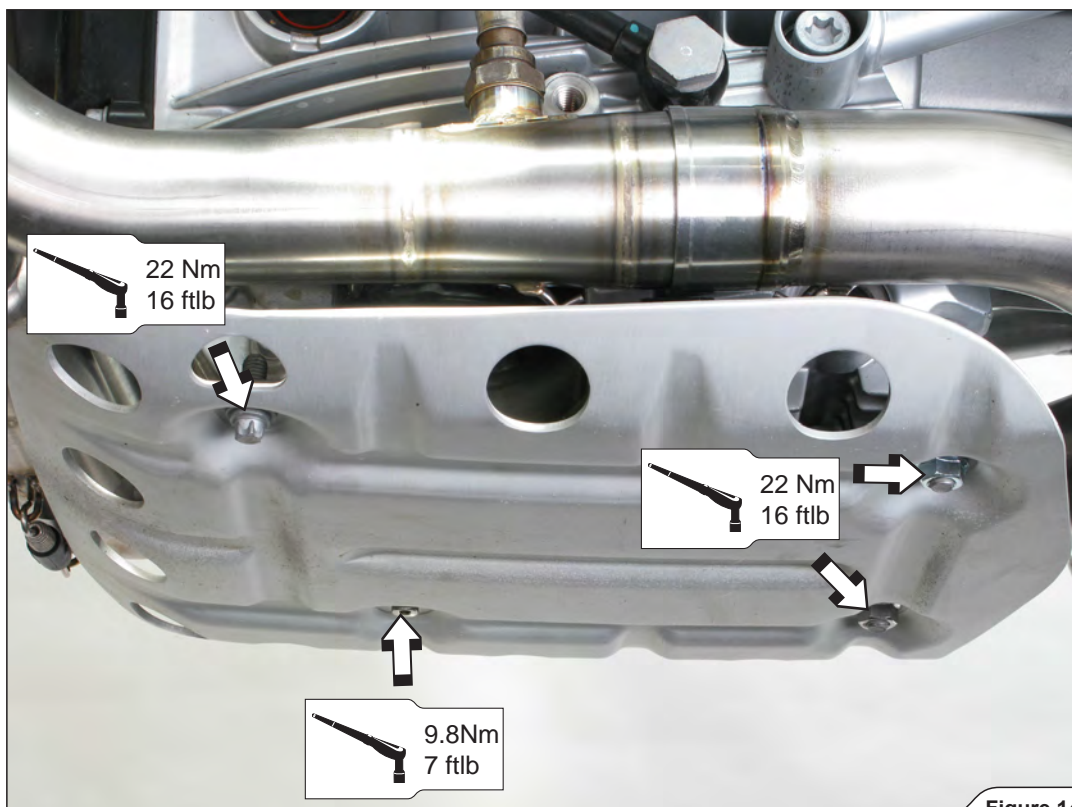

Figure 14
6. Attach the belly shield onto the motorcycle; tighten the marked bolts and nuts to a specified torques (Figure 14).